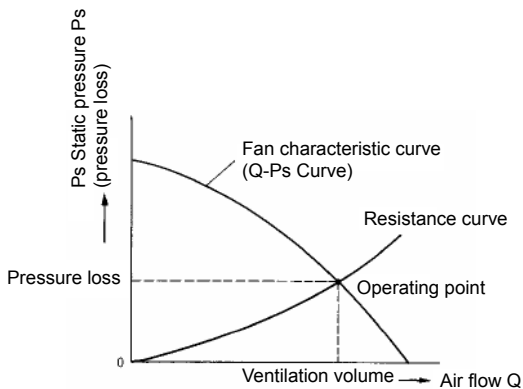

Figure 12.5-1: Fan operating characteristics
- (1) Calculate the total heat loss of the instruments housed in the cabinet.
- (2) Determine the temperature rise value within the cabinet and calculate ventilation volume (air flow) Q [m^3/s] according to "12.4.3 Forced cooling by ventilation fan".
- (3) Estimate the pressure loss due to the air flow through the cabinet (air flow speed) using analogical reasoning on the air flow characteristics inside the cabinet and accumulated operation data. Deriving pressure loss from the equation is difficult, so actual data measurements will be necessary.
- (4) Calculate the required ventilation volume (air flow) Q [m^3/s] using the fan characteristic curves (Q-Ps curve) listed in fan catalogues and technical documents and the estimated pressure loss from (3). Determine the fan to use. The resistance curve is a diagram based on pressure loss. The fan is operated at the intersection of the fan characteristic curve and the resistance curve shown in Figure 12.5-1. The air flow of this intersection (operating point) becomes the ventilation volume of the cabinet.
- (5) Attach the selected fan, and verify the temperature rise inside the cabinet at full load operation. Typically, internal temperature of the cabinet is 50°C when ambient temperature is 40°C . In this case, the allowable temperature rise in the cabinet will be up to 10K.
- (6) If the temperature rise inside the cabinet exceeds 10K, perform the following countermeasures.